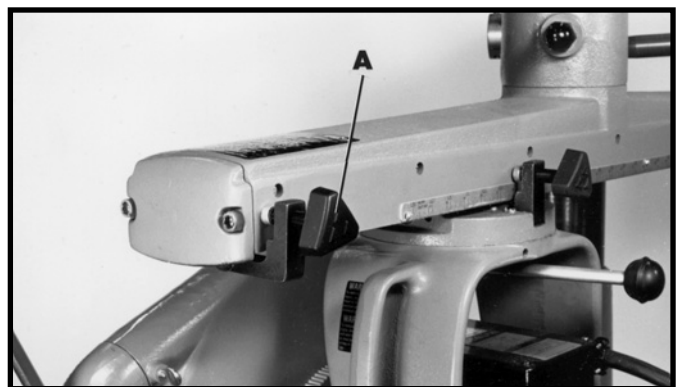

Fig. 45
An adjustable cross-cut stop (A) Fig. 45 is provided to prevent unnecessary travel of the cuttinghead on the track-arm. It is especially useful when performing repetitive operations. Clamp the stop to the side of the track-arm at a position which will stop the cuttinghead travel as soon as the blade cuts through the workpiece.